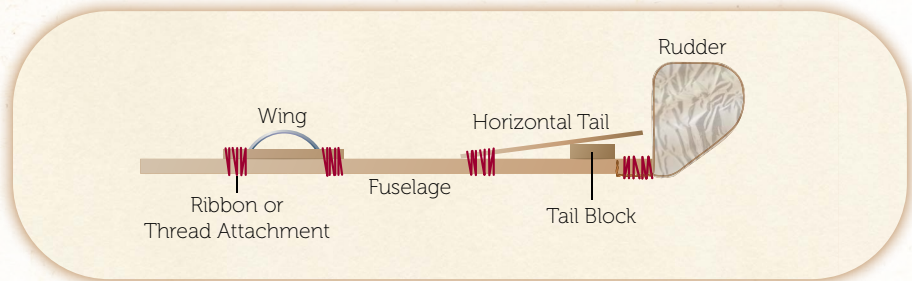

Figure 10.3: Attaching the wing and tail with thread
As you can see in Figure 10.3, the wing and tail are attached with thread or ribbons and may be moved about on the fuselage stick to obtain the best flight characteristics.
1. To attach the rudder, insert it into the tail in the $\frac{1}{16}$ -inch hole you drilled earlier as shown in Figure 10.3. Wrap the joint with ribbon or thread.
3. Attach the tail to the fuselage as shown in Figure 10.3. The back end of the tail should align with the back of the fuselage stick.